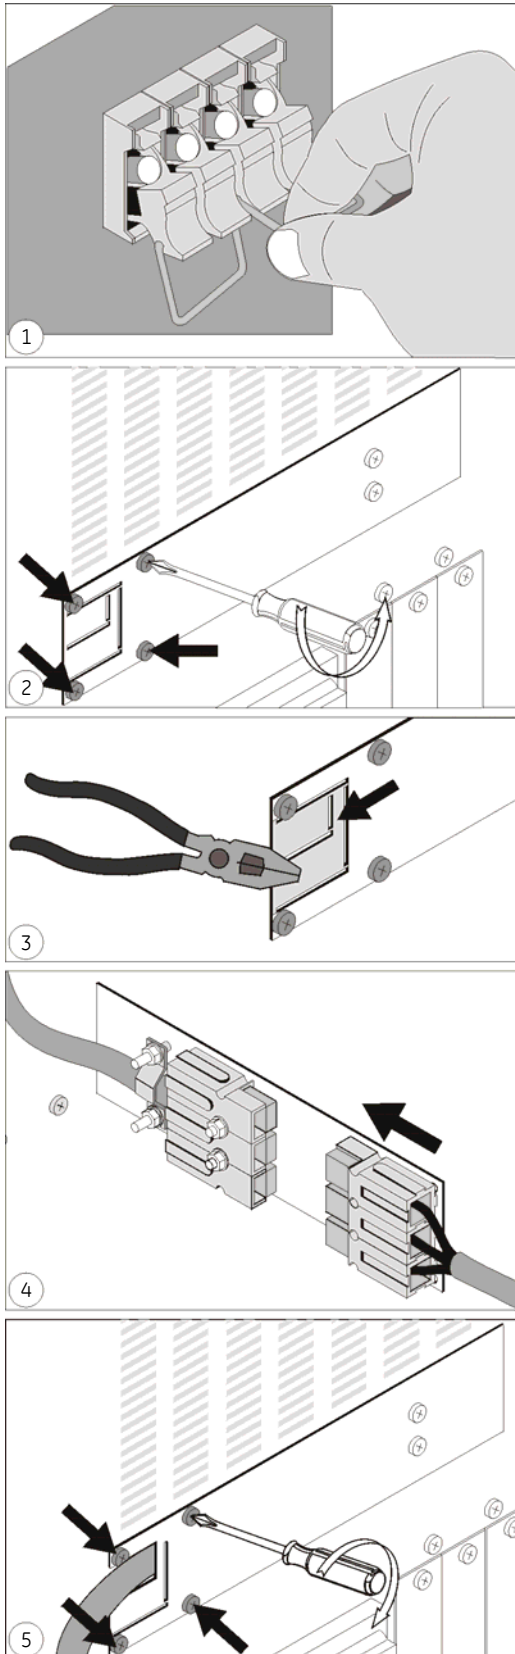

Figure 7. LP 3/5/6-11:
3. Break out a part of the cover: a large part (grey in fig. 7) if your battery extension pack is equipped with a swivel (19, fig. 13a), otherwise a small part. If applicable, mount the swivel in the cover.
4. Connect the DC connector of the battery pack (15a) to the DC socket of the UPS (15). You will hear a click when the cable is properly installed.
6. In case of 14Ah battery packs: using the DC connector of the battery pack (15) you can install a second, third, etc. pack. 7Ah battery packs cannot be connected in series.
7. Insert the battery fuse of the UPS (17). Insert the 2 (7Ah) or 4 (14Ah) fuses of the (each) battery pack (18). Close the fuse holders (17, 18).